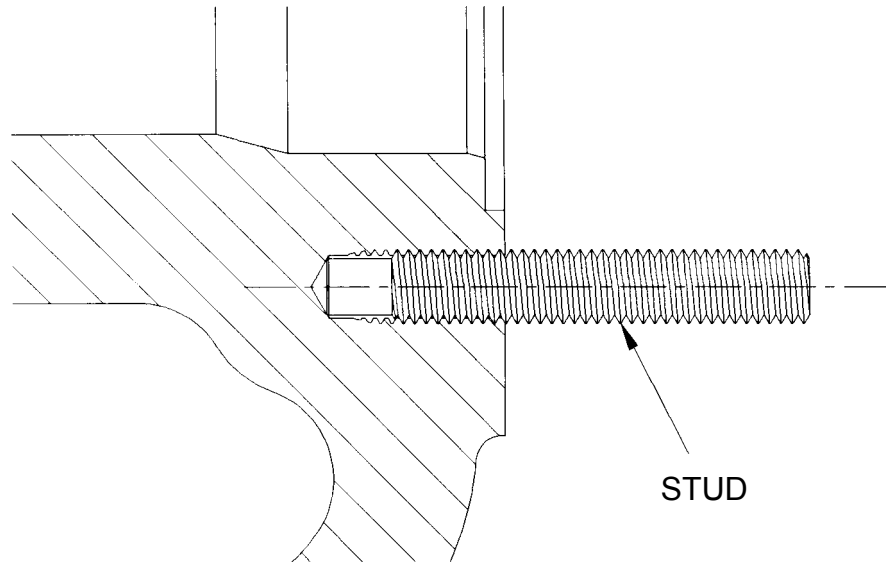

FIGURE 1-8: DOG POINT STUDS
- a. When studs are specified for cylinder applications, tighten stud-nuts to the same values as cap screws in similar applications. Reference Figure 1-8: